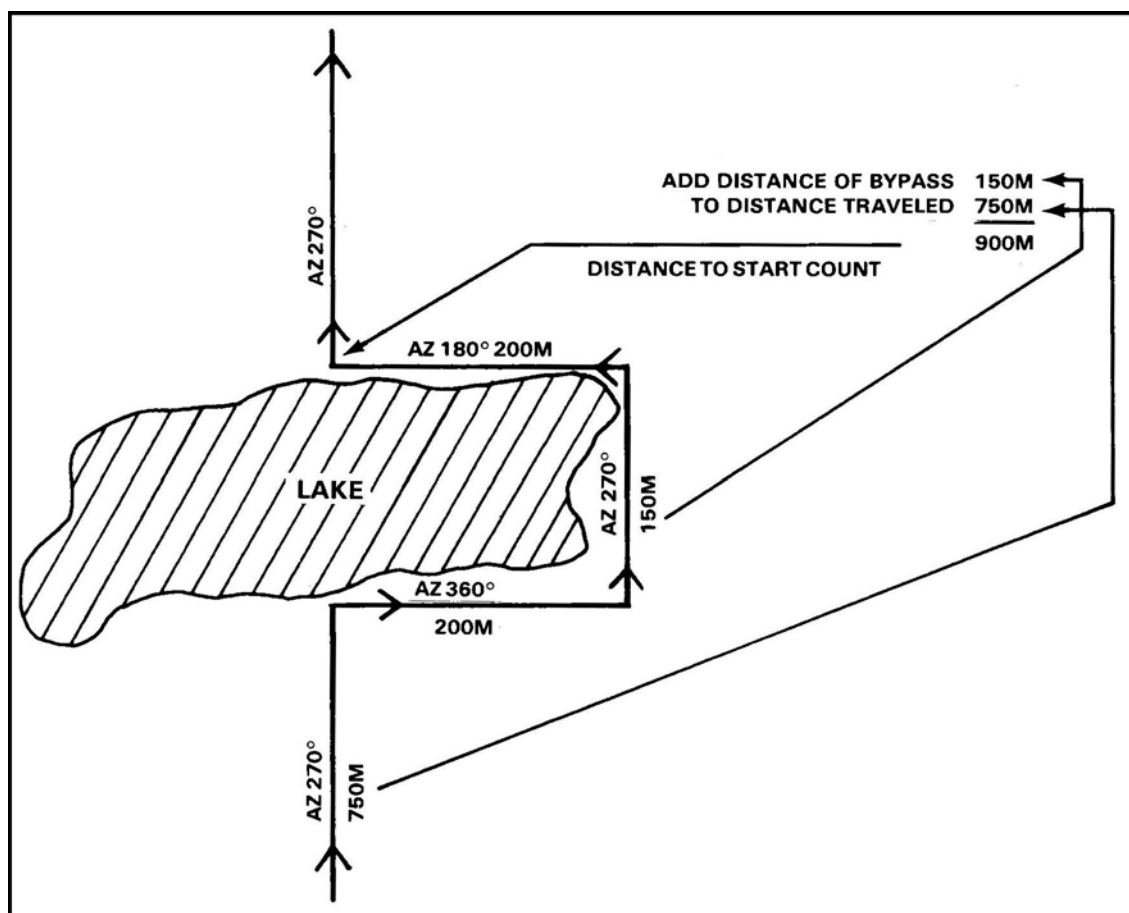

Figure 6. Bypassing an obstacle.
- (5) Convert the map distance to pace count.
- (6) Make a thorough map reconnaissance of the area between the start point and the finish point.
- e. If you should encounter an obstacle, you may have to detour around it (Figure 6). To do this, complete a series of 90-degree turns until the obstacle is bypassed and you are back on the original azimuth.